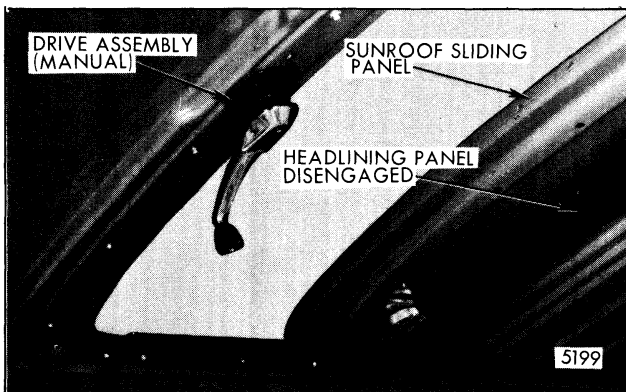

Fig. 8-43-Headlining Panel Disengaged
**NOTE:** For access to adjustment provisions, detach headlining panel and slide it rearward into the sunroof housing for stowage (Fig. 8-43).
2. Snap headlining panel out by extracting retaining clips from roof panel front edge (clips remain in headlining assembly) (Fig. 8-43).